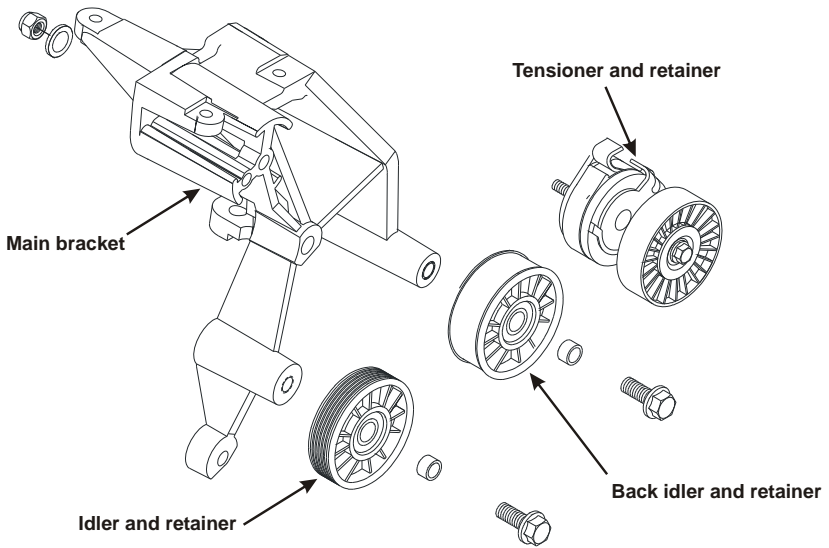

Figure 3.2
- Remove the idlers and the tensioner from the bracket (Figure 3.2).